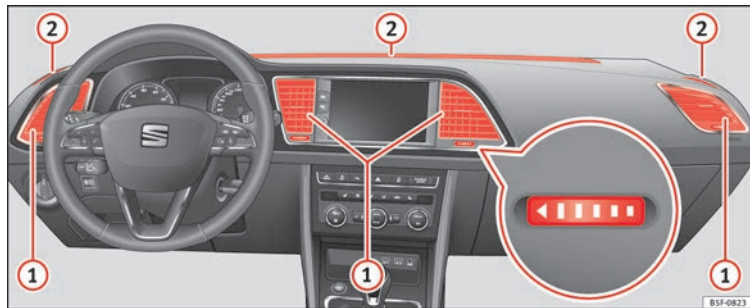

Fig. 190 On the dash panel: air vents
To ensure proper heating, cooling and ventilation in the vehicle interior, air vents » Fig. 190 ① should remain open.